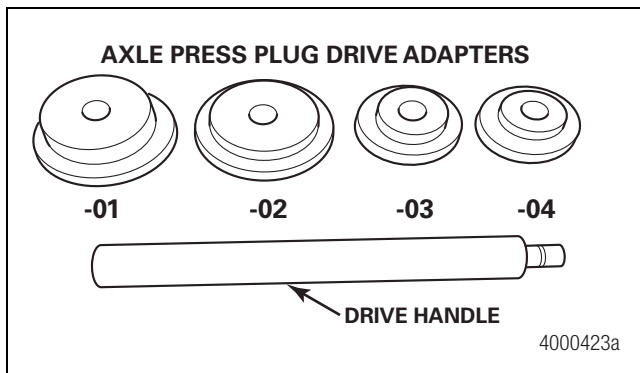

Figure 2.15
- Choose the correct axle press plug drive adapter by matching the axle manufacturer and model to the axle press plug drive adapters. Refer to Section 7. Figure 2.15. Current production axle press plug drive adapters are identified with a number stamped on the part. Some early adapters were not marked.